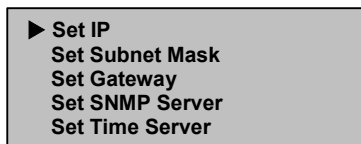

Figure 24: Set IP
5. On the Ethernet submenu, scroll to Set IP. (See Figure 24.)
5. On the Ethernet submenu, scroll to Set Subnet Mask. (See Figure 24.)
5. On the Ethernet submenu, scroll to Set Gateway. (See Figure 24.)
5. On the Ethernet submenu, scroll to Set SNMP Server. (See Figure 24.)
5. On the Ethernet submenu, scroll to Set Time Server. (See Figure 24.)